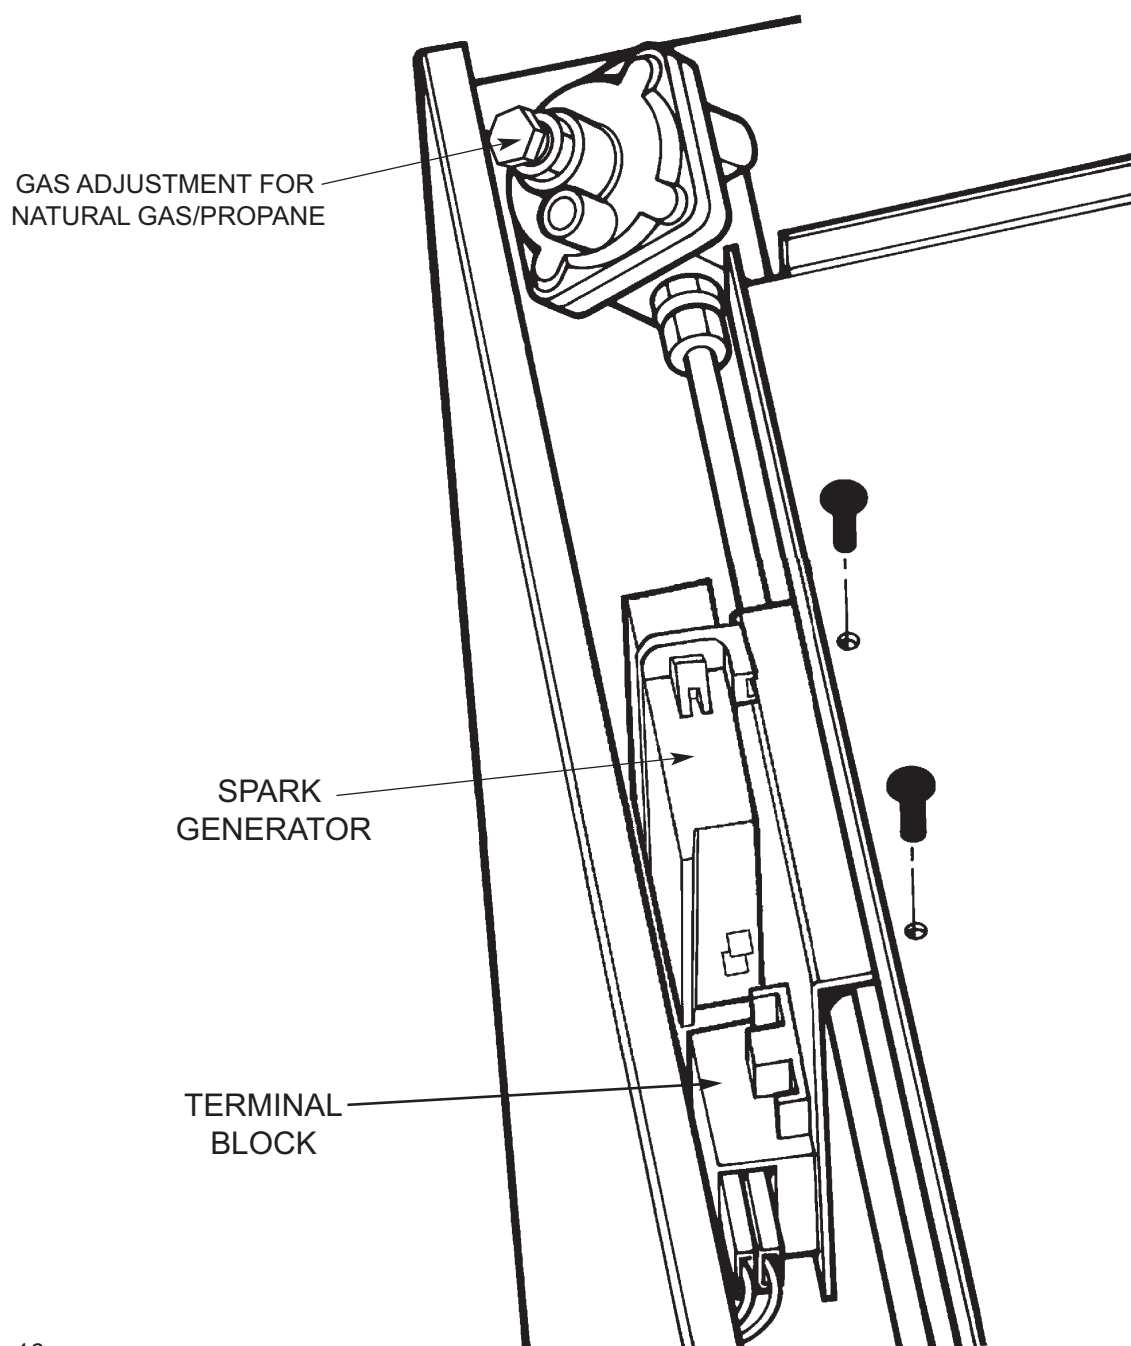

Fig. 16
3. Remove two screws retaining the generator fixing bracket to the burner mounting panel, and remove generator. (See Fig. 16).
4. Carefully remove all wiring from ignition generator (Fig. 16).